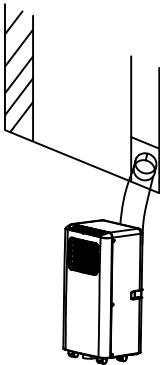
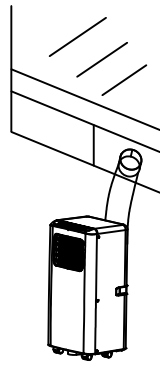

Fig.6
Fig.6a
- 2) As shown in Fig.6 and Fig.6a, install the exhaust hose and adjust the window position well.